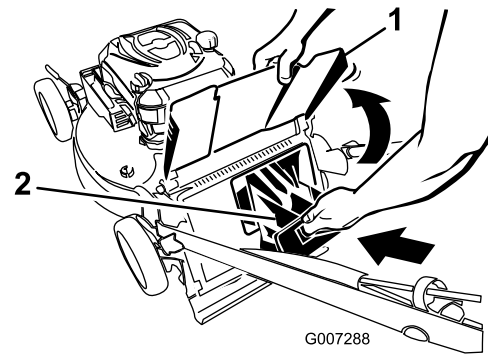

Figure 29
4. Install the rear discharge plug (Figure 29).